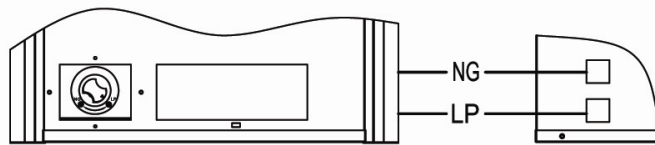

Figure 8
1. Remove bottom screw from cover plate, see figure 8, and rotate to expose fuel selection device.